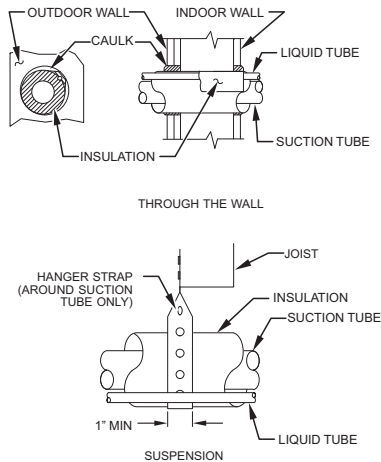

Fig. 1 – Connecting Tubing Installation
5. When passing refrigerant tubes through the wall, seal opening with RTV or other pliable silicon-based caulk. (See Fig. 1.)
7. Do not suspend refrigerant tubing from joists and studs with a rigid wire or strap that comes in direct contact with tubing. (See Fig. 1.)
9. When necessary, use hanger straps which are 1 in. wide and conform to shape of tubing insulation. (See Fig. 1.)